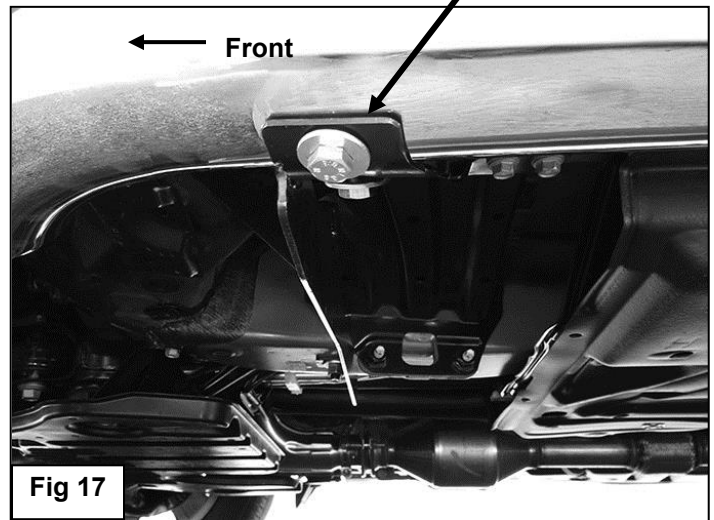

Fig 17
11. Carefully position the driver Sidebar onto the Mounting Brackets. Use the included (4) 8mm x 25mm Hex Bolts, (4) 8mm Lock Washers and (4) 8mm Flat Washers to attach the Sidebar to the Mounting Brackets, **(Figure 17)**.